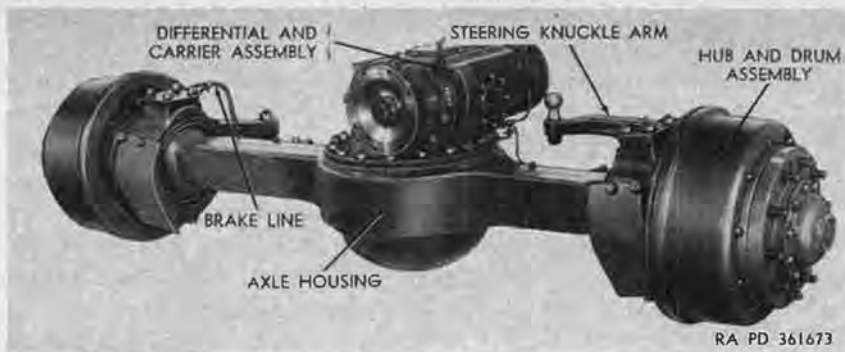

Figure 217. Front axle assembly.
a. Description. The front axle assembly (fig. 217) is a hypoid, double reduction, single speed type. It is secured to the underside of the front springs by a pair of clamp plates and U-bolts at each end. The differential and carrier assembly on top of the axle housing transmits power from the transfer-to-front-axle propeller shaft (fig. 213) to the left and right drive shafts inside the housing whenever the over-running clutch on the transfer front output shaft is engaged (par. 206a). Universal joints installed at the outer end of each of the drive